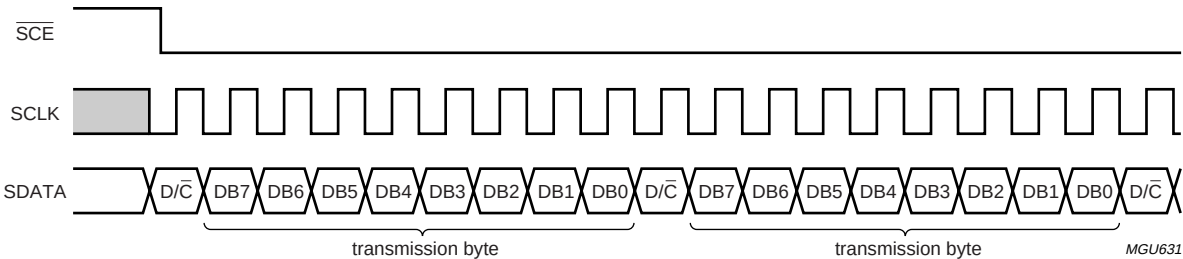

Fig.17 Write mode: transmission of several bytes.
- If $\overline{SCE}$ stays LOW after the last bit of a command/data byte, the serial interface is ready for the $D/\overline{C}$ bit of the next byte at the next rising edge of SCLK (see Fig.17)